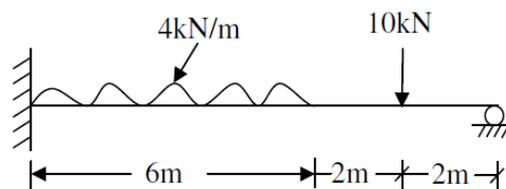

Figure: 5
5. A propped cantilever beam is shown in figure 5. Calculate the prop Reaction and also draw the BM and SF diagrams. [15]